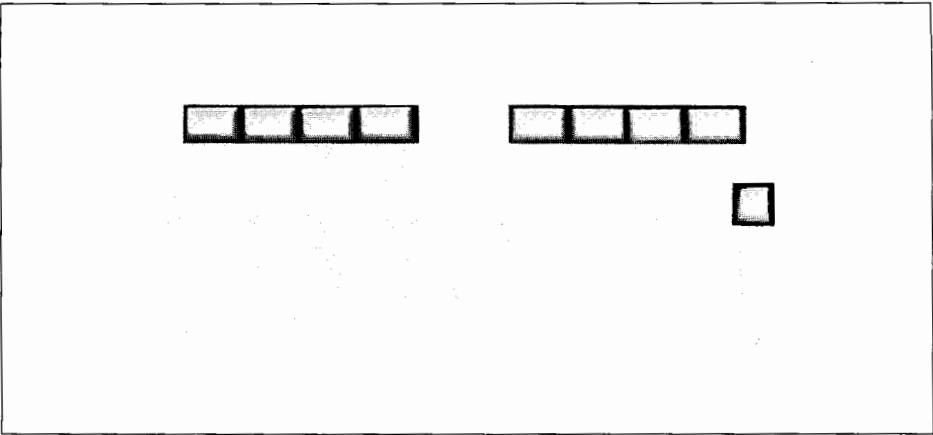

Figure 4-3. 2621B Standard Keyboard Function Key Group
- **Function Key Group.** This group of keys is used to access screen and cursor control, and special functions that are available in the 2621 B (see Figure 4-3).
The Function Key Group consists of eight Function keys located across the top of the keyboard, and a Labels key located at the right edge of the character set group. Figure 4-3 shows the Function Key Group.
This key is located to the right of the character set group and is the only unmarked key on the keyboard (see Figure 4-3). The Labels key is used to manipulate the screen display of the Function labels.